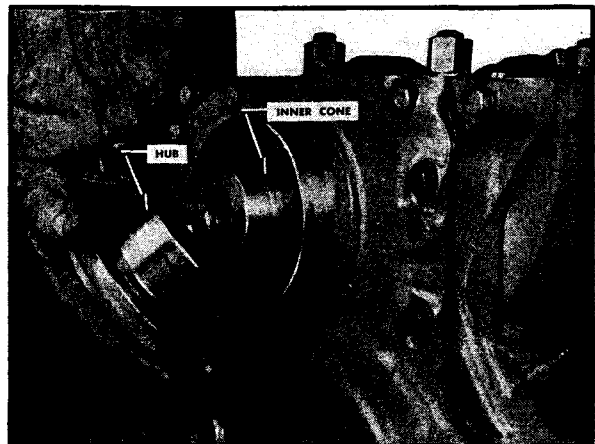

Fig. 12-38. Installing vibration damper hub
4. Tighten the assembly securely with the crankshaft cone retainer, locknut and capscREW. Fig. 12-38.